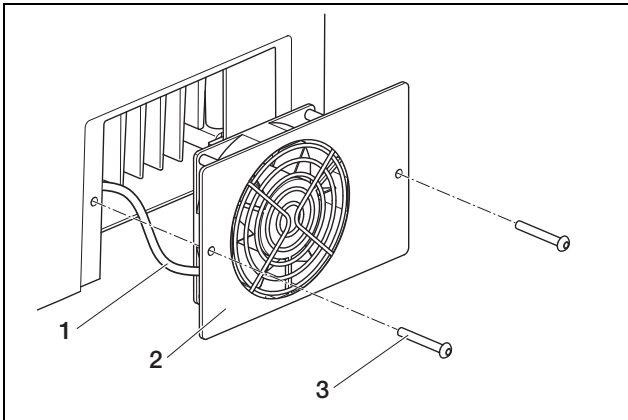

Fig. 60: Dismantle fan (PIKO 7.0/8.3/10.1)
- PIKO 7.0/8.3/10.1: Loosen the screws (3 in fig. 60) and carefully remove the fan plate.